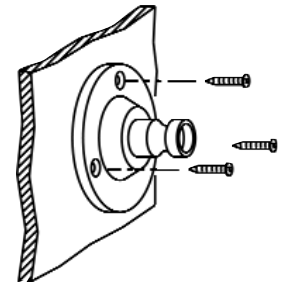

Figure 1
1. Unscrew wing nut and remove threaded pin to separate the mounting base from the horn. Use the base as a template for the mounting holes. Drill three mounting holes and attach the base using appropriate hardware (not included). See Figure 1